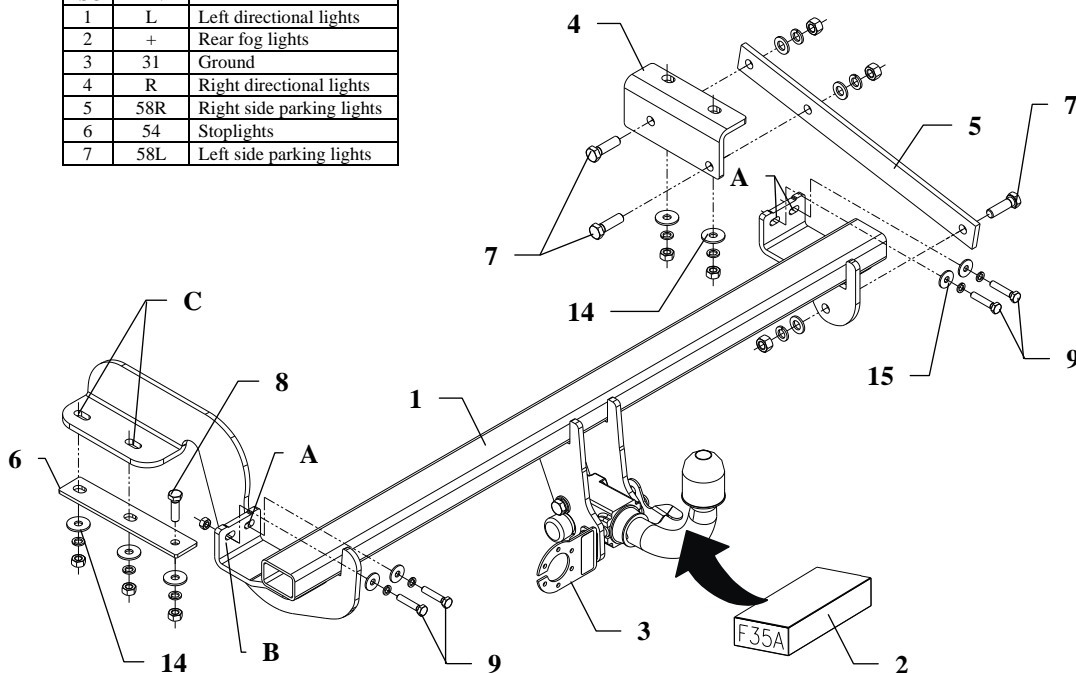

Fig. 1
2. In points A (see fig. 1) one ought to unscrew the original bolts.
5. Apply the main bar of the towing hitch (pos. 1) at points A, B and C.
6. Assembly elements of muffler fastenings with fish-plate (pos. 6).
7. Apply the angle bar (pos. 4) to the right chassis member.
8. Fix loosely flat bar (pos. 5) to the angle bar (pos. 4) and to the main bar of the towing hitch (pos. 1) using bolts M12x40mm (pos. 7).
9. Fix body of the automat and place tow-ball according to supplied instruction. Note! Remember to place socket plate (pos. 3) as shown on the drawing 1.